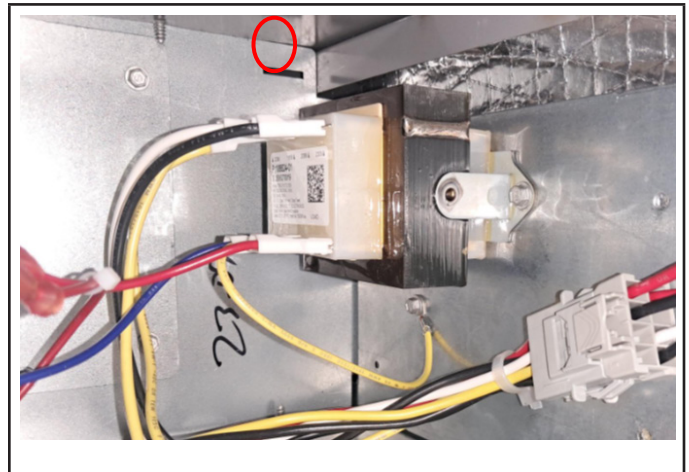
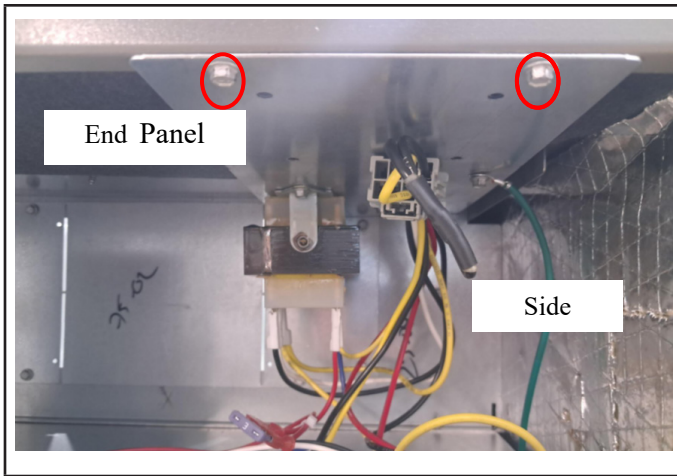

FIGURE 21. Notch for Control Panel Relocation
FIGURE 22. Control Panel Relocated to End Panel (Horizontal-Right Configuration)
- 2 - Slide the control panel into the notch on the electric heat mounting panel (FIGURE 21). Using the screws removed in Step 1, secure the control panel to the end panel, as shown in FIGURE 22.